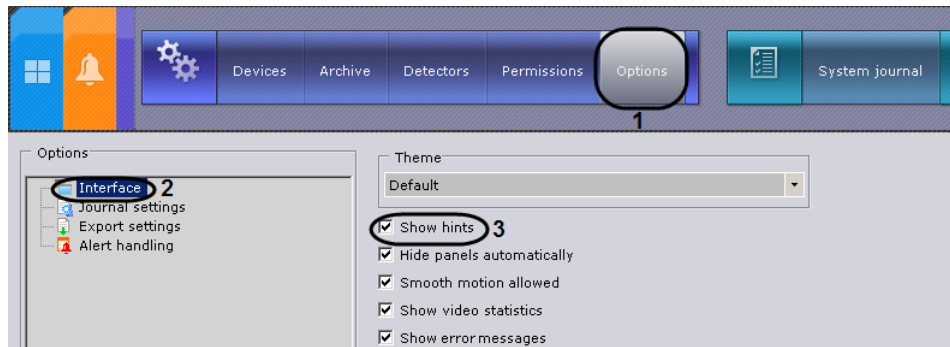

Fig. 6.8—3 Configuring hints
1. Go to **System settings**⇒**Options**⇒**Interface** (Fig. 6.8—3, 1-2).
2. Deselect the **Show hints** checkbox (see Fig. 6.8—3, 3).